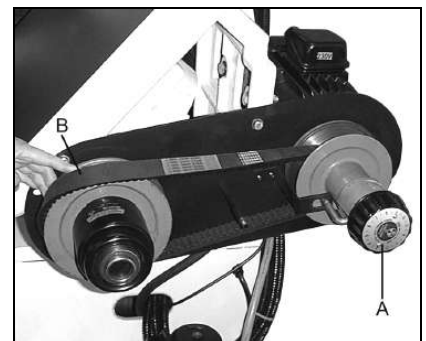

Fig 19
Loosen tension on the belt by turning the variable speed dial (A, Fig. 19) to the lowest setting. This will allow you to remove the belt (B).